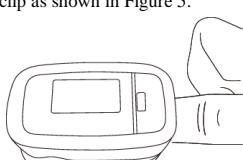

Figure 5 Put finger in position
- 1. The finger should be placed properly (see the attached illustration of this manual, Figure 5), or else it may cause inaccurate measurement.
- 2) Open the clip as shown in Figure 5.